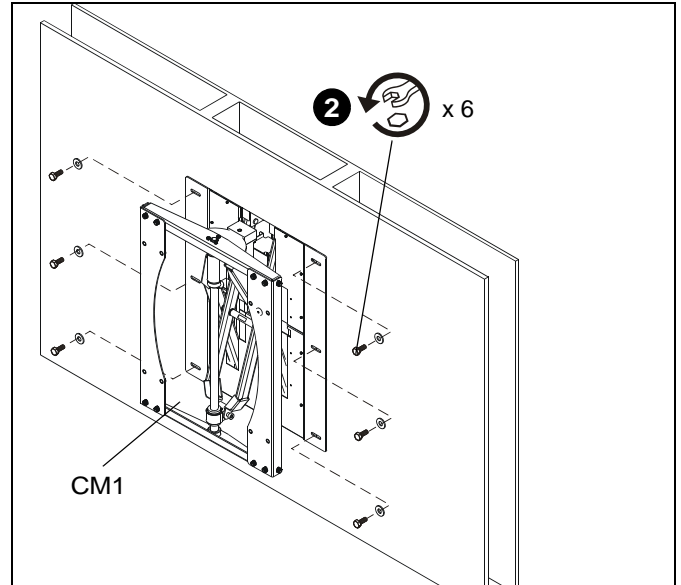

Figure 2
2. Remove six 5/16" x 2 1/2" lag bolts and six 5/16" washers. (See Figure 2)